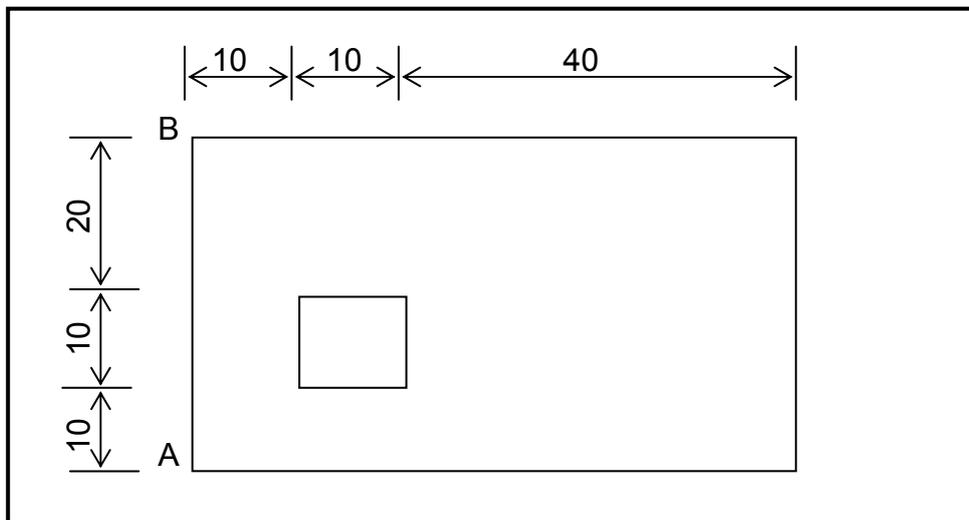

FIGURE 5.3
- 5.3 FIGURE 5.3 shows a lamina that is of a uniform thickness, with a square hole in the lamina. Calculate the centroid of the lamina from line A-B as shown in the figure.